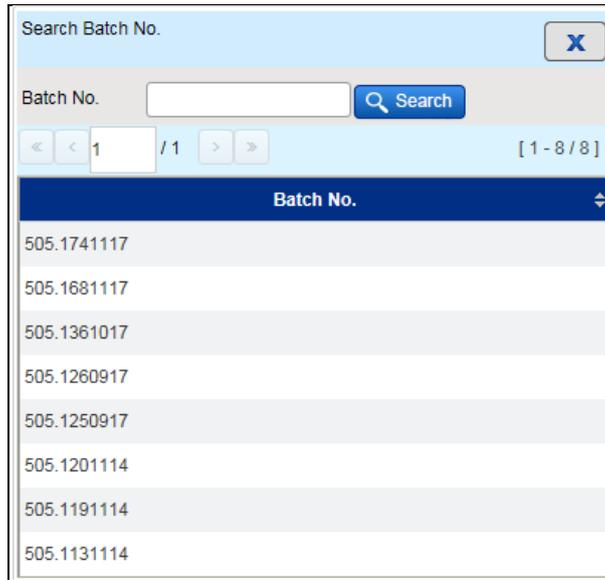

Figure 3.2.3-5 Search Batch No.
- System will display as Figure 3.2.3-5.